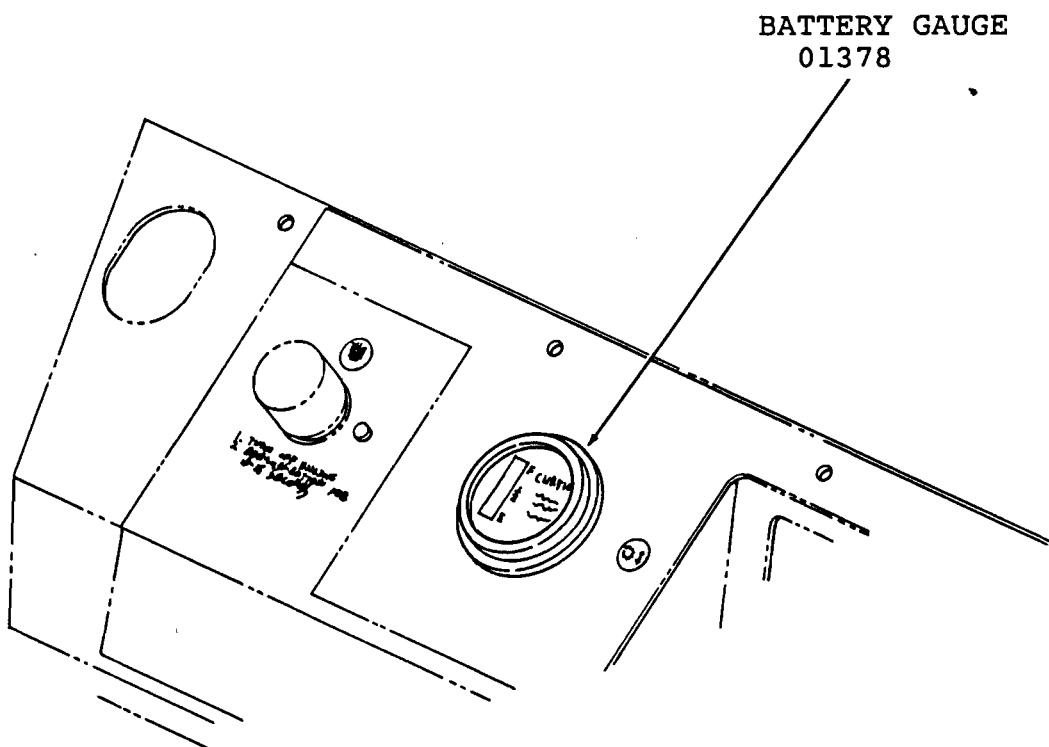

Fig. 1 - LOCATION OF BATTERY GAUGE
3. Remove the plug button in the instrument panel and insert the battery gauge. (See Fig. 1).